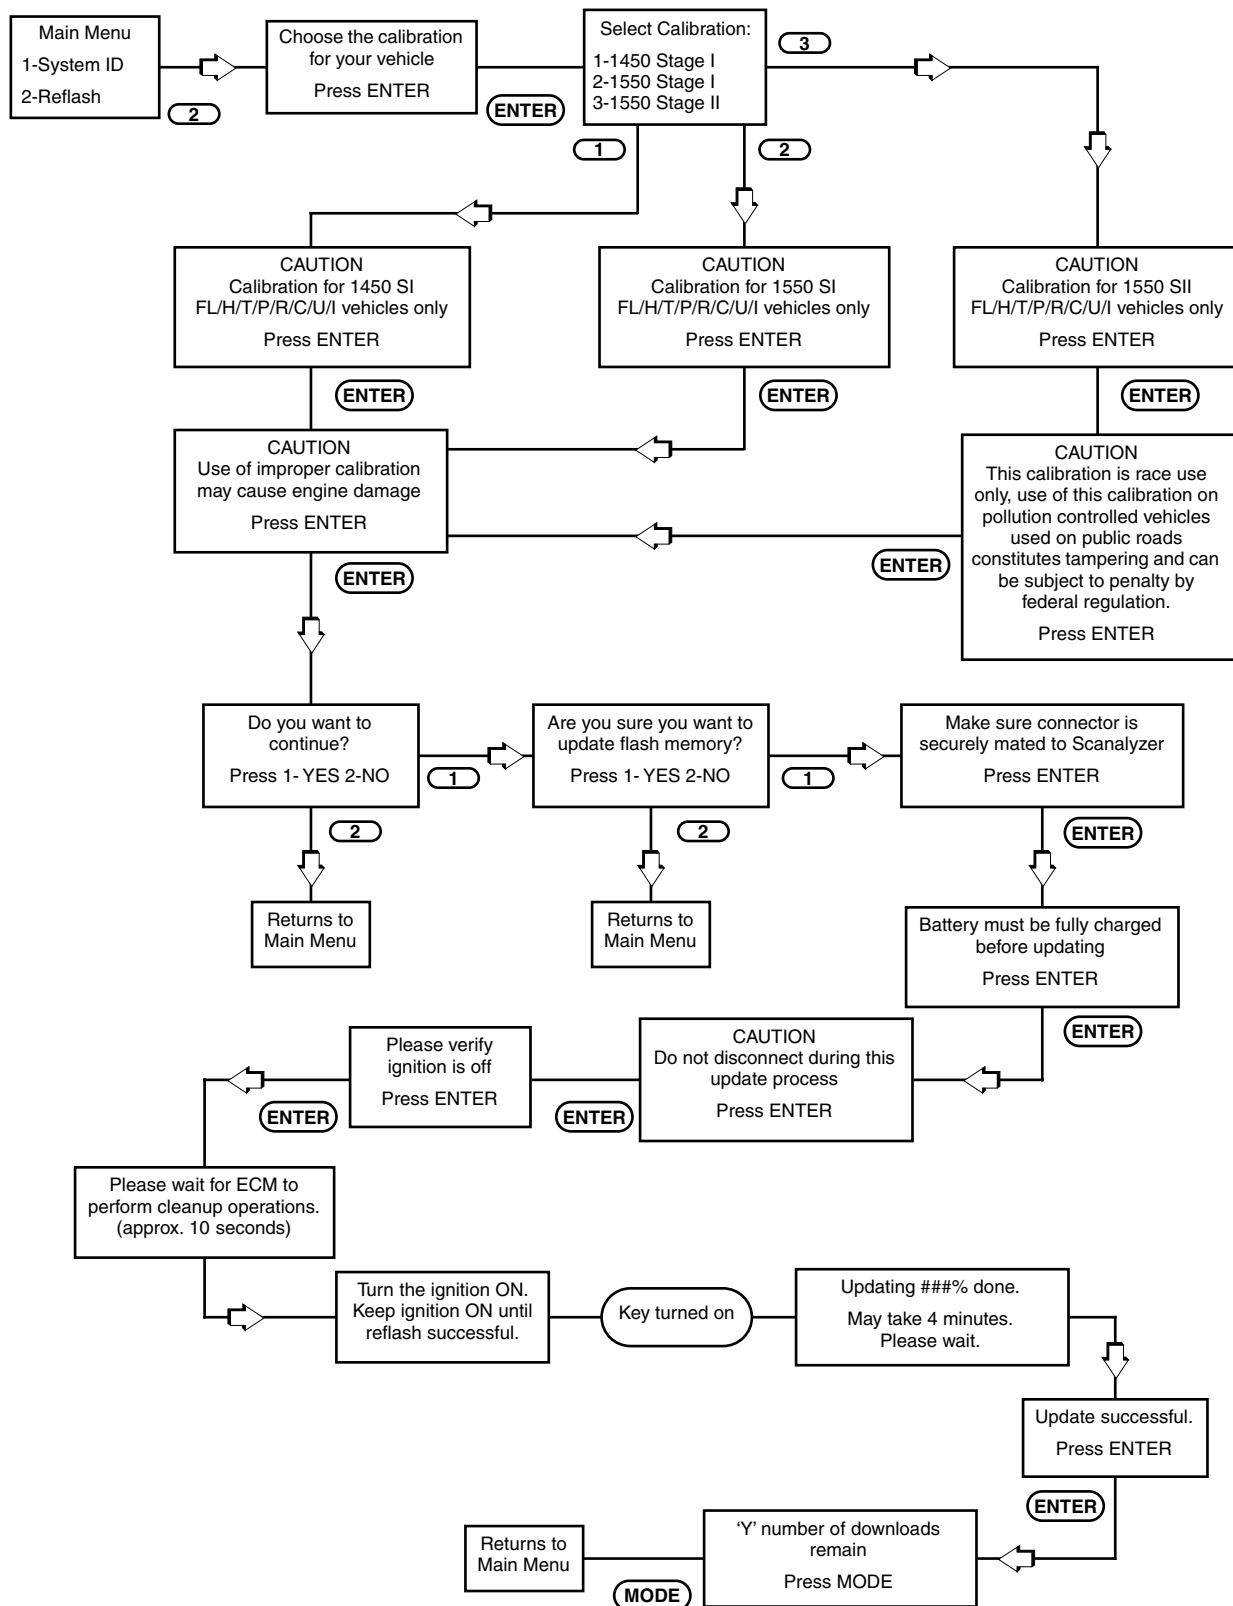

Figure 1. Example of Touring ECM Recalibration Routine
8. From the Main Menu, press the number "2" key to begin the recalibration routine. See the flow chart in Figure 1 for an example.